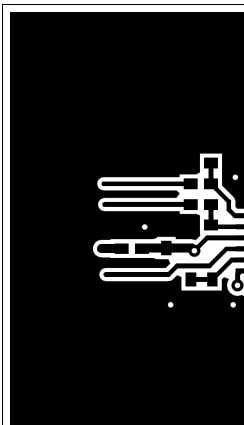

Figure 42. Top Layer Traces and Copper
- Increasing the PCB copper connecting to VDDA, VDDB, VSSA and VSSB pins is recommended, with priority on maximizing the connection to VSSA and VSSB (see Figure 42 and Figure 43). However, high voltage PCB considerations mentioned above must be maintained.
Figure 42 and Figure 43 shows top and bottom layer traces and copper.